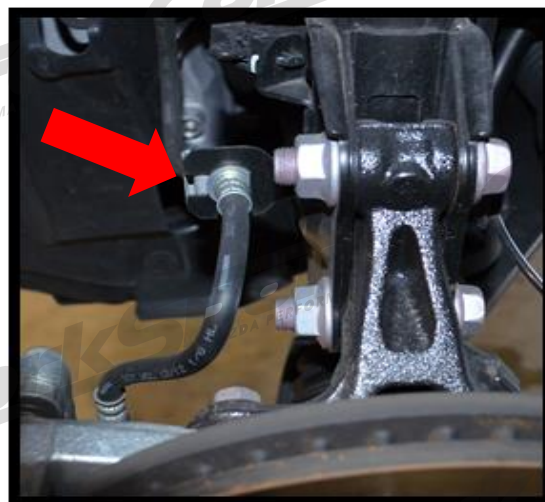

Figure 2d
- c) Free the brake line by removing the clip from the brake line mount (Figure 2d).
c) **Free the brake line** using pliers or a flat head screw driver to remove the clip from the brake line mount (**red arrow** in **Figure 2d**).